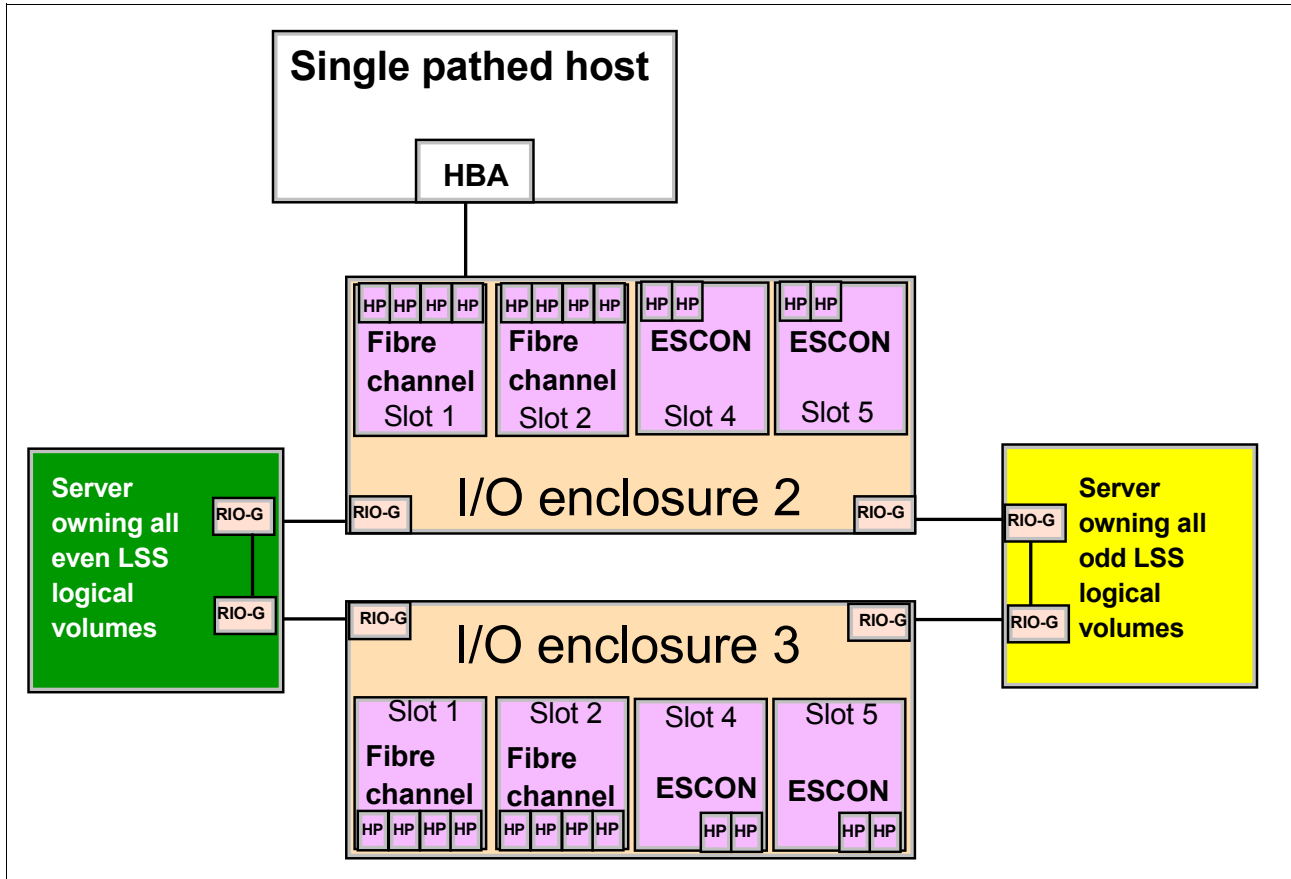

Figure 4-5 Single pathed host
Unlike the DS6000, the DS8000 does not use the concept of preferred path, since the host adapters are shared between the servers. To show this concept, Figure 4-5 on page 72 depicts a potential machine configuration. In this example, a DS8100 Model 921 has two I/O enclosures (which are enclosures 2 and 3). Each enclosure has four host adapters: two Fibre Channel and two ESCON. I/O enclosure slots 3 and 6 are not depicted because they are reserved for device adapter (DA) cards. If a host were to only have a single path to a DS8000 as shown in Figure 4-5, then it would still be able to access volumes belonging to all LSSs because the host adapter will direct the I/O to the correct server. However, if an error were to occur either on the host adapter (HA), host port (HP), or I/O enclosure, then all connectivity would be lost. Clearly the host bus adapter (HBA) in the attached host is also a single point of failure.